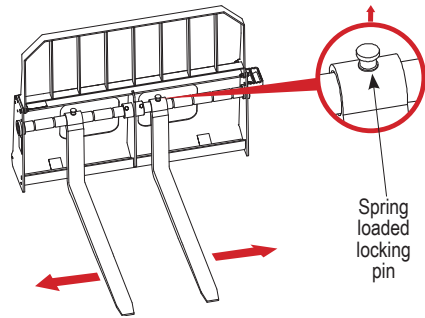

Figure 15
9. Adjust the tynes to desired width by lifting the black locking pins on top of the tynes and sliding them into place (Figure 15). The locking pins are spring loaded and will automatically snap down into the tyne bar grooves and lock the tynes. Refer to "How to adjust tyne width" on page 34 for correct methods of adjusting tynes.